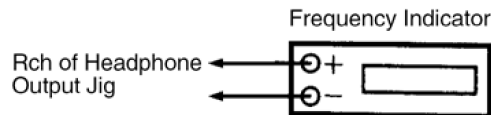

Fig. 10
1. Connect a frequency indicator. (Fig 10)